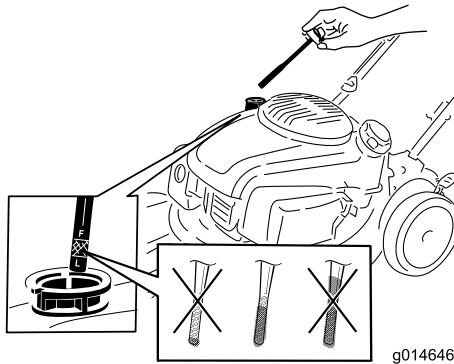

Figure 5
1. Remove the dipstick (Figure 5).
2. **Slowly** pour oil into the oil-fill tube until the oil level reaches the Full line on the dipstick (Figure 5). **Do not overfill.** (Max. fill: 0.65 L (22 oz), type: 10W-30 or SAE 30 detergent oil with an API service classification of SJ or higher.)
Note: Each time you check the oil level, remove the dipstick and wipe it clean, insert it into the oil filler neck (but **do not** screw it in), then remove it again and check the level (Figure 5).